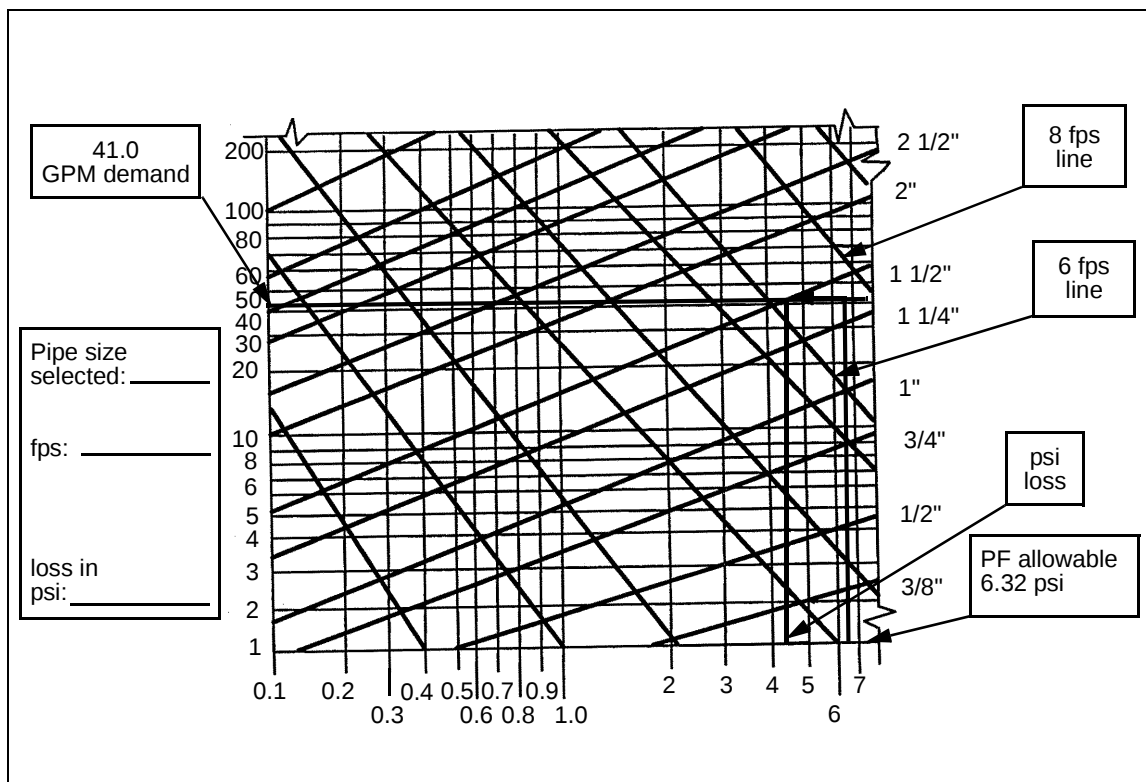

Figure D-1. Friction Loss Using a Fairly Smooth Pipe
D-2. Refer to *Figures D-1 through D-5, pages D-7 through D-11*, to design and draw a water service line. These figures can also be used to determine pipe sizes.
D-3. Use the following steps and *Figure D-1* to determine the size of the pipe, the velocity, and the friction loss from Point A to Point B:
Find the fluid's actual velocity, which should be between 2 and 10 fps, and find PF_{actual} (from *Figures D-1 to D-5, pages D-7 through D-11*).
Step 7. Determine the equivalent pipe length (EL) for fittings. Go back to *Step 4* and recalculate $PF_{allowable}$. If the pipe size changes in the appropriate friction loss table (*Figure D-1 through D-5, pages D-7 through D-11*), then find the new velocity and PF_{actual} from *Figures D-1 through D-4*. EL is negligible if there is 1,000 feet or more between fittings.